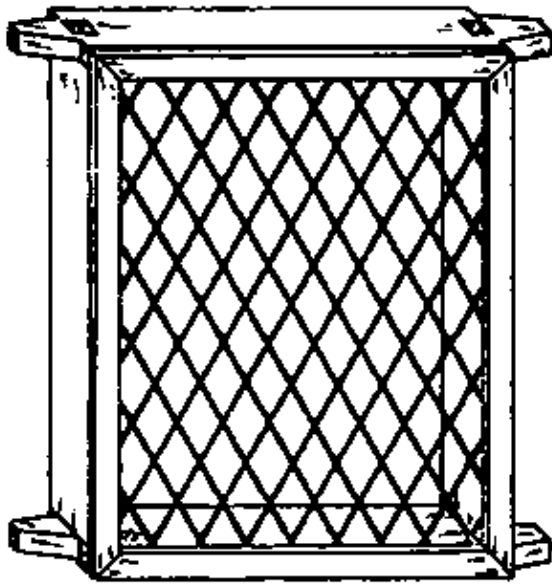

Fig. 1
– One of the most common methods is to fix mesh wire or expanded metal directly onto the frame, in a way that it cannot be torn off without making considerable noise or using a special cutting tool. Use strong beads to attach the wire to the frame and plenty of screws or nails (Fig. 1).